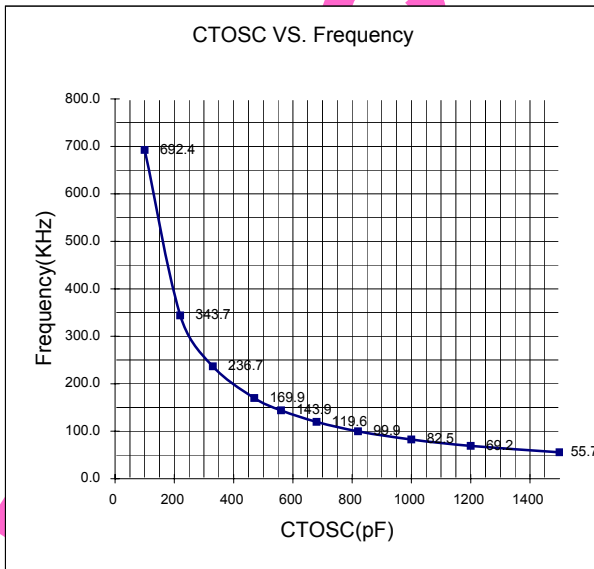

Fig. 3
**Programmable Ramp Wave Generator:** This circuit generates a typical 100KHz ramp wave. (as CCTOSC =820 pF) The relation between frequency and capacitor CCTOSC is as Fig. 3